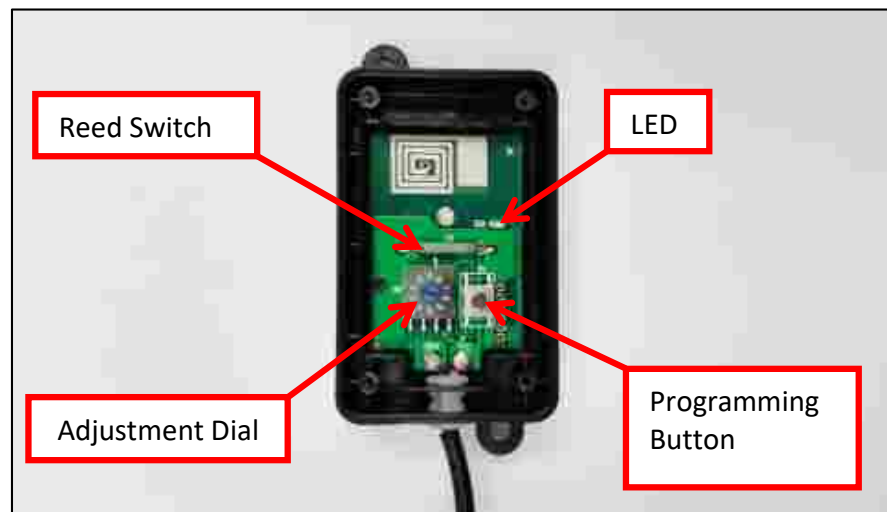

Fig.4
- 1) Set the Motion Sensor Adjustment Dial to 0. (See Fig.4).